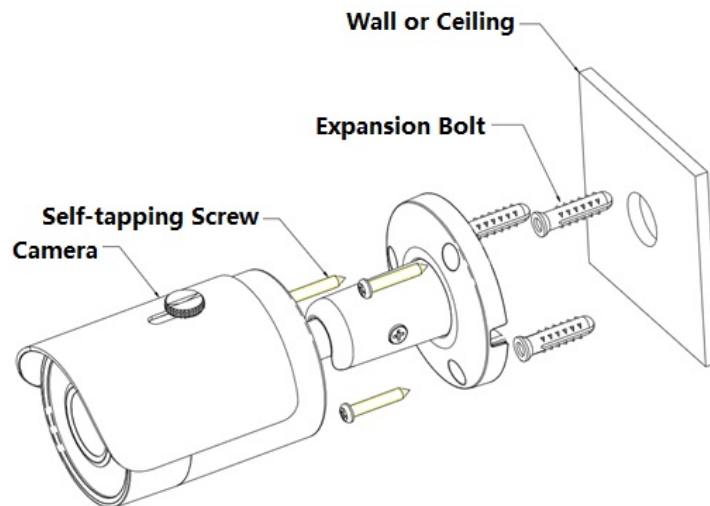

Figure 3-1
- It needs to install expansion bolt first if it is the cement wall (Please make sure the installation holes of expansion bolt are the same as those of the bracket), then use self-tapping screws to install bracket, see Figure 3-1.